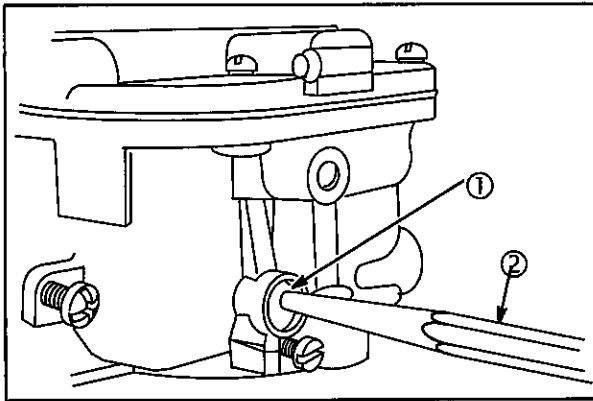

Fig. 85
1. Install new transitional hole welch plug (1), **Fig. 85**.
2. Use a round punch (2). Tap in plug until it is flat.